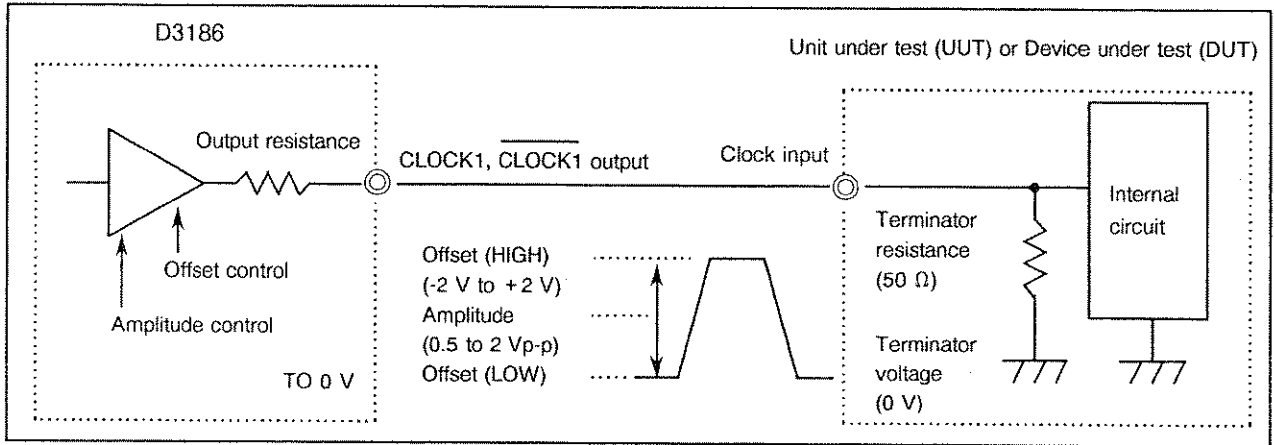

Figure 4-4 CLOCK1 and  $\overline{\text{CLOCK1}}$  Output, DC Connection, 0 V Termination
- (a) When the terminator voltage of the UUT/DUT clock input is 0 V (see Figure 4-4.):